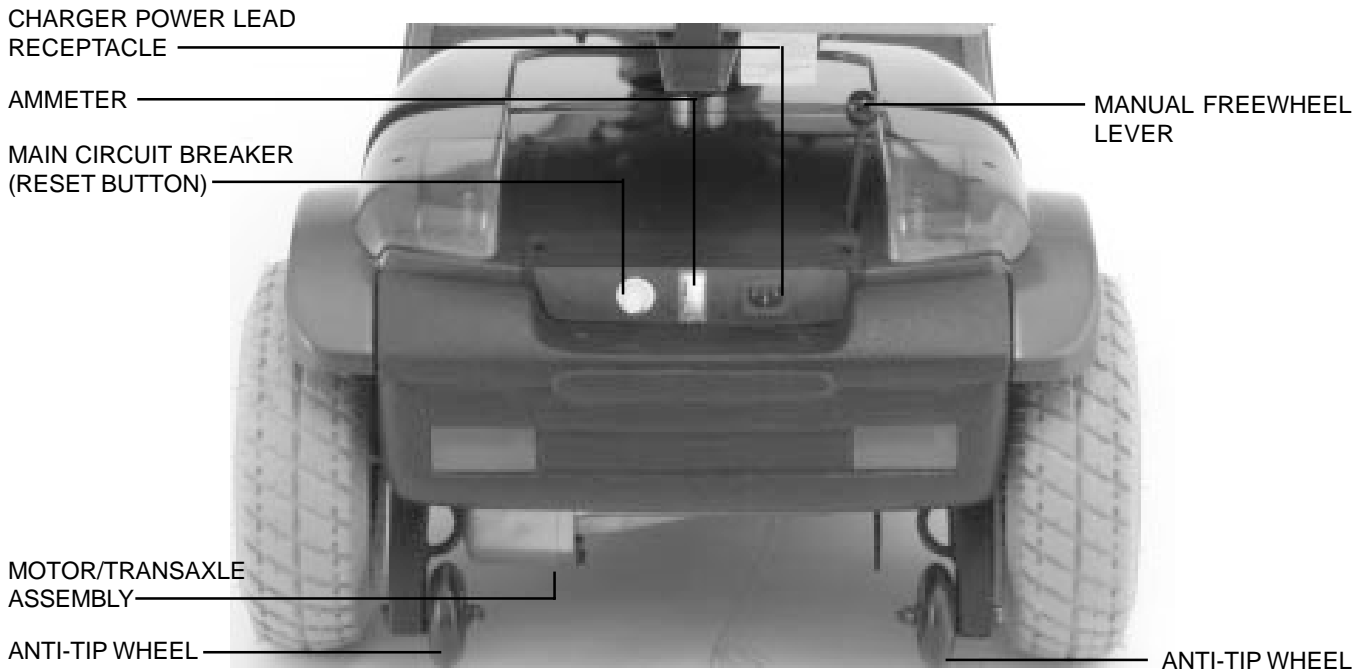

Figure 6. Rear Section
The onboard battery charger (not shown), the charger power lead receptacle, the batteries (not shown), the main circuit breaker (reset button), the ammeter, the manual freewheel lever, the anti-tip wheels, and the motor/transaxle assembly are located on the rear section of your scooter. See figure 6.
When the voltage in your scooter's batteries becomes low or the scooter is heavily strained because of excessive loads or steep inclines, the main circuit breaker may trip to protect the motor and electronics from damage. See figure 6.
- The manual freewheel lever is located on the end of the motor/transaxle assembly at the right rear of the scooter. See figure 6.